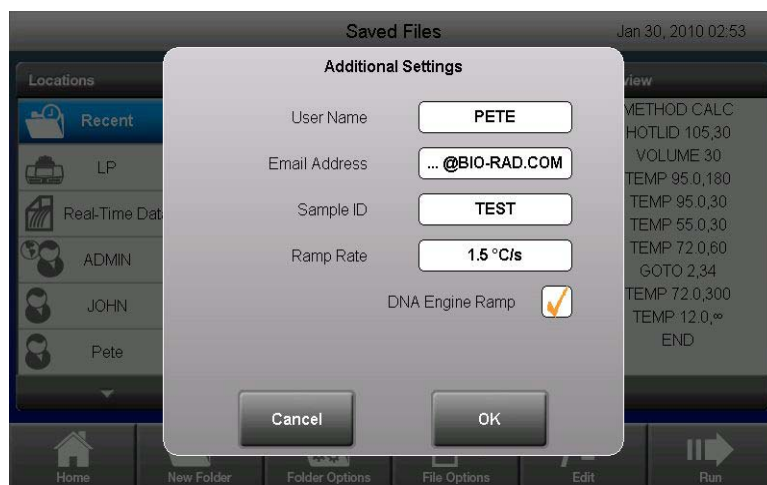

Figure 20. Add additional settings to your protocol including running in DNA Engine Ramp mode and sending an email notification upon run completion.
6. To add optional additional settings, touch the **Additional Settings** button to enter a user name, email address (to send an email notification upon run completion), sample ID or to set a ramp rate for all steps of a protocol (Figure 20). Also, run a protocol on the C1000 Touch thermal cycler at the same ramp speed as that of the DNA Engine® thermal cycler by touching the **DNA Engine Ramp** checkbox.